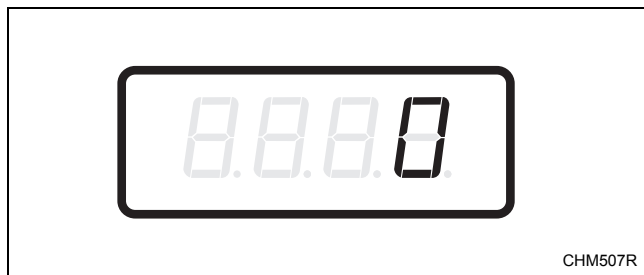

Figure 11
4. When “dEn2” appears in the display, press the START (enter) keypad. There are five digits in the Coin #2 Value. The fifth digit will appear in the display and will flash one (1) second on and one (1) second off. Refer to *Figure 11*.